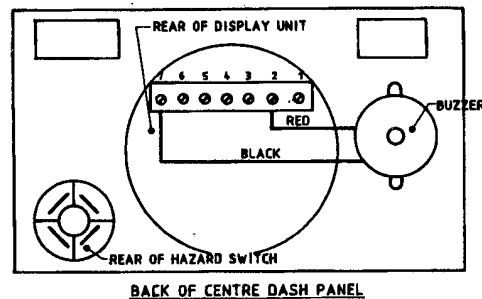

Figure 4 — Back of Centre Dash Panel
- h. Mount the buzzer, item 2, onto the back of the centre dash and connect wires as per Fig 4.